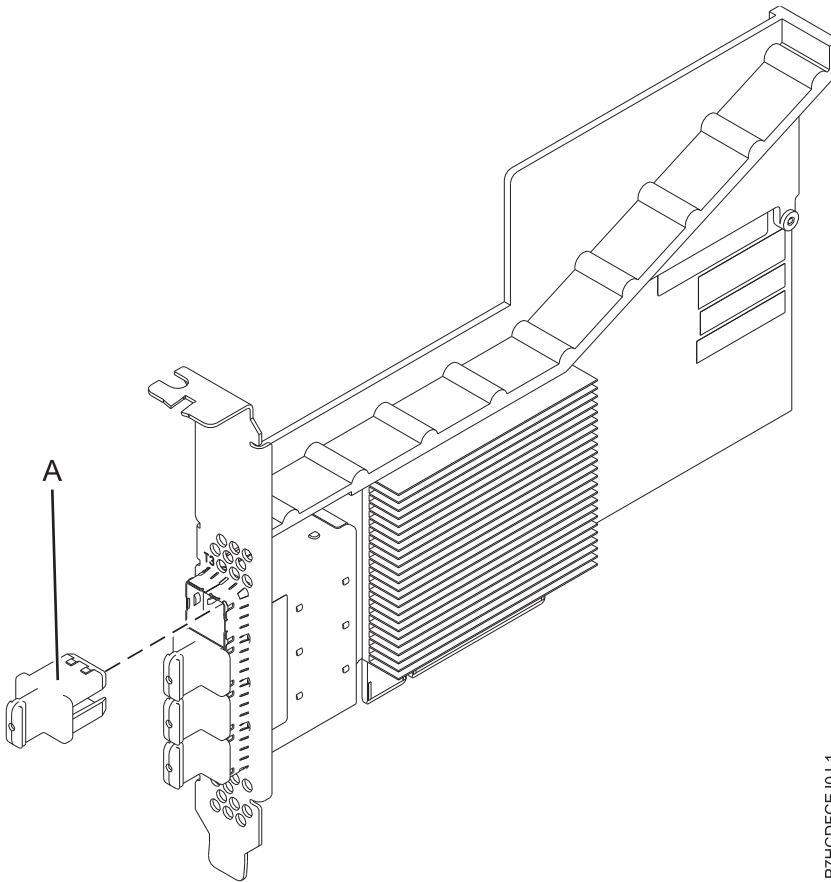

Figure 27. PCIe3 RAID SAS adapter
The PCIe3 RAID SAS quad-port 6 Gb Adapter is a PCI Express (PCIe), generation 3, RAID SAS adapter that has a low-profile, short-form factor, but packaged for full height installation. The adapter is used in high-performance and high-density, serial attached SCSI (SAS) applications. It supports the attachment of SAS disk and SAS tape by using four mini SAS high-density (HD) x4 connectors that allow the physical links to be used in various narrow and wide-port configurations. SAS tape attachment is only supported in a single adapter configuration and cannot be mixed with SAS disk on the same adapter. The adapter does not have write cache. Figure 27 on page 82 shows the PCIe3 RAID SAS quad-port 6 Gb Adapter.
Figure 27 on page 82 shows the adapter. The connector plug (A) is installed in an empty port and prevents damage to that port whenever a cable for the adjacent port connectors is plugged-in or removed.